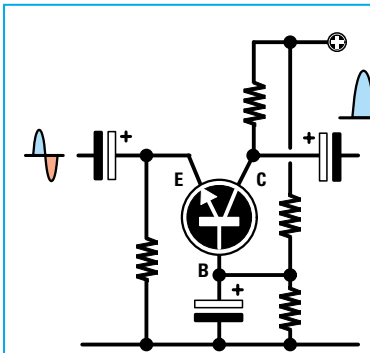

Fig.453 Common Base.
**Common Base** o **Base Comune** (vedi fig.453)